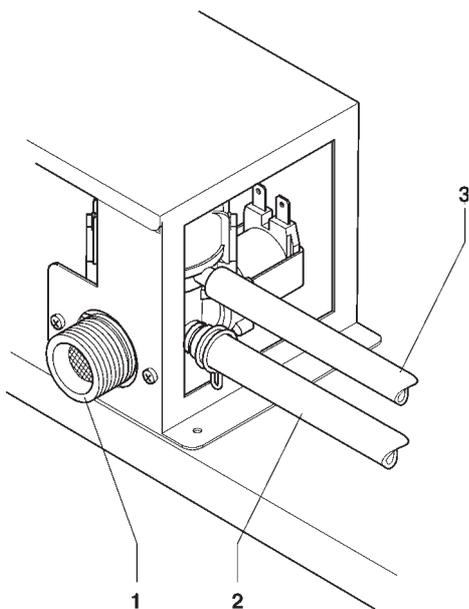

Fig. 10
Use a hose (also available as a kit) capable of withstanding the water mains pressure and suitable for use with foodstuff (min. inside diameter of 6 mm) to connect the water supply to the union (3/4" gas) of the water inlet solenoid valve (see Fig. 10).
The water inlet solenoid valve (see Fig. 10) is equipped with an overflow device which mechanically stops the water inlet if there is a malfunction in the solenoid valve or in the boiler water level control device.
- loosen the nut which secures the solenoid valve supply hose to relieve the water mains residual pressure and then tighten again (see Fig. 10);